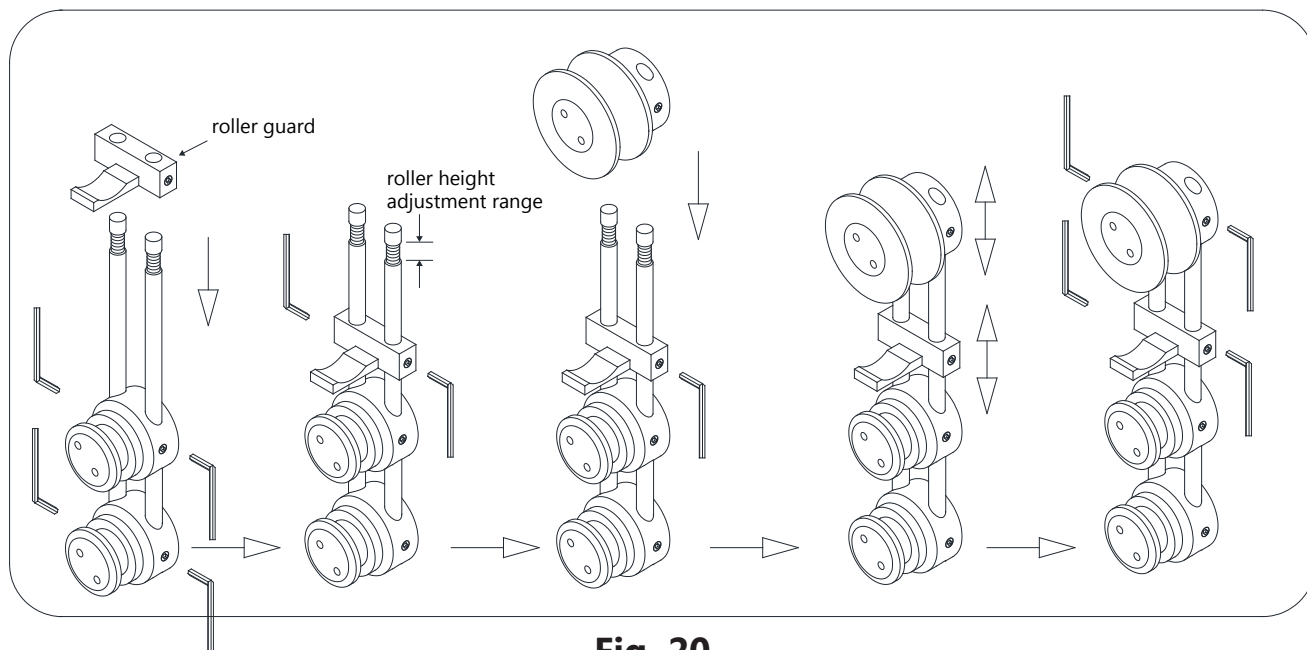

**Fig. 19**
(**Fig. 18** and **Fig. 19**)
**16.** Press the **Anti-Water Strip (#14)** on the vertical edges of the **Stationary Glass (#02)** and the **Door Glass (#05)**. Press the **Bumper Seal Strip (#13)** onto the vertical edge of the **Door Glass (#05)**. Attach the **Handle (#06)** to the **Door Glass (#05)**. (**Fig. 19**)